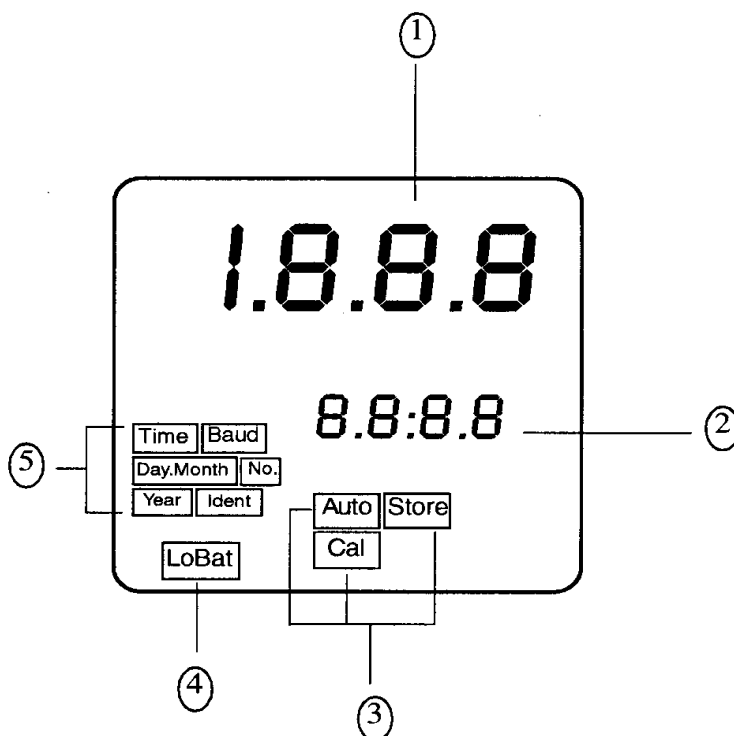

Figure 2
Figure 2 illustrates all the items that can appear on the display. The upper row of the display (1) is used for reporting the turbidity levels and to provide user guidance in the customer setting routine. The lower row of the display (2) is used to display the stored turbidity reading and to communicate error messages and user guidance. The display has several status indicators (3) which distinguish the operation of the instrument. In addition, the "LoBat" block (4) flashes when the batteries need to be replaced. Finally, several indicators (5) provide guidance when the customer setting routine is being used and when the calibration routine is being used.